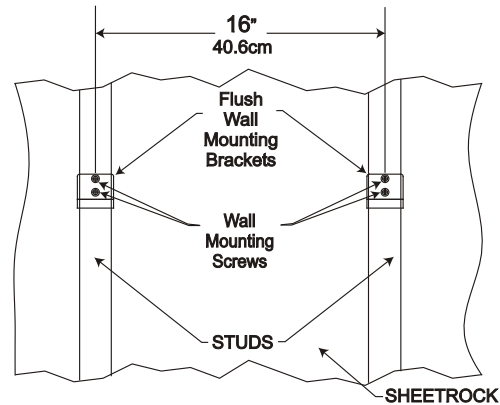

Figure 10
5. Refer to figures 10 thru 15 to install the appropriate Wall Bracket on the wall (orient the bracket as illustrated) using the supplied Mounting Screws. If the Flush Mount Bracket is used, attach the two rubber bumpers to the rear of the Loudspeaker, near the bottom.